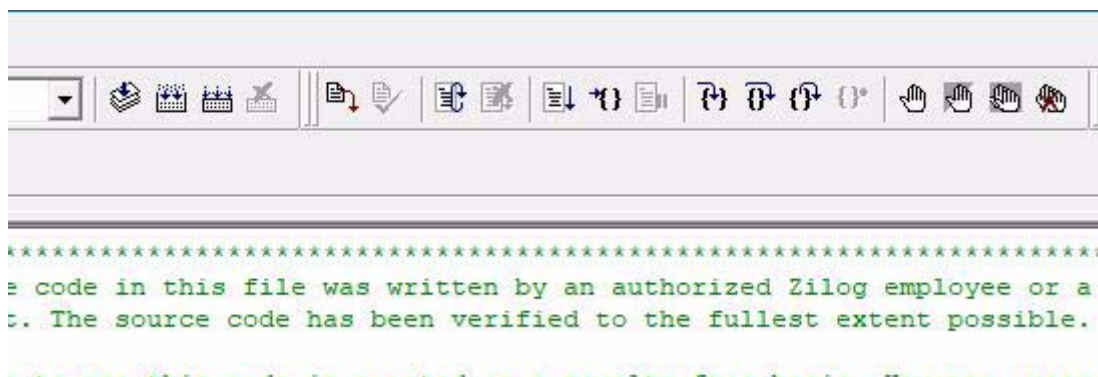

Figure 16. Debug Icons
8. If the Debug icons are not displayed, as in Figure 16, right-click in the empty grey area under the icons and select **Debug** and **Workbook Mode**.